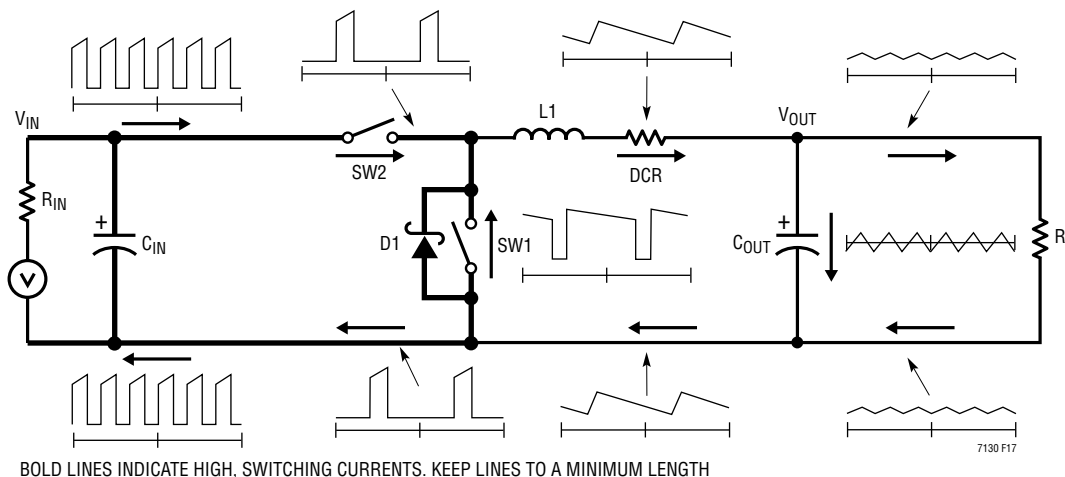

Figure 17. Branch Current Waveforms
When laying out the printed circuit board, the following checklist should be used to ensure proper operation of the IC. These items are also illustrated graphically in the layout diagram of Figure 17. Check the following in the PC layout:
- The 47pF to 330pF ceramic capacitor between the ITH pin and signal ground should be placed as close as possible to the IC. Figure 17 illustrates all branch currents in a switching regulator. It becomes very clear after studying the current waveforms why it is critical to keep the high switching current paths to a small physical size. High electric and magnetic fields will radiate from these *loops* just as radio stations transmit signals. The output capacitor ground should return to the negative terminal of the input capacitor and not share a common ground path with any switched current paths. The left half of the circuit gives rise to the *noise* generated by a switching regulator. The GND terminations and Schottky diode should return to the bottom plate(s) of the input capacitor(s) with a short isolated PC trace since very high switched currents are present. External OPTI-LOOP® compensation allows overcompensation for PC layouts which are not optimized but this is not the recommended design procedure.